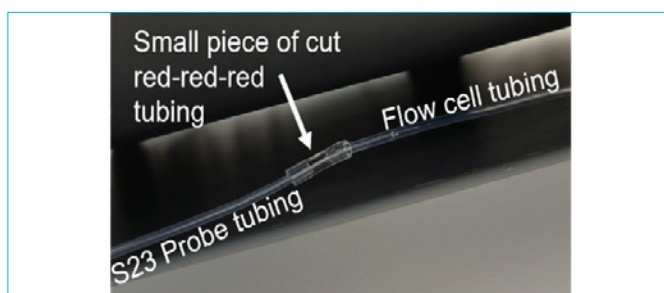

Figure 17: Connection between the probe tubing and Flow cell inlet tubing (under the instrument) is made using a small piece of red/red/red tubing.
3. The inlet tubing to the flow cell will come out the bottom of the instrument. Cut a few centimeters of peristaltic pump tubing (1.14 mm ID red/red/red). Fit this flow cell tubing into one end of the piece of red/red/red peristaltic pump tubing and the probe tubing from the autosampler into the other end of the piece peristaltic pump tubing as shown in Figure 17.